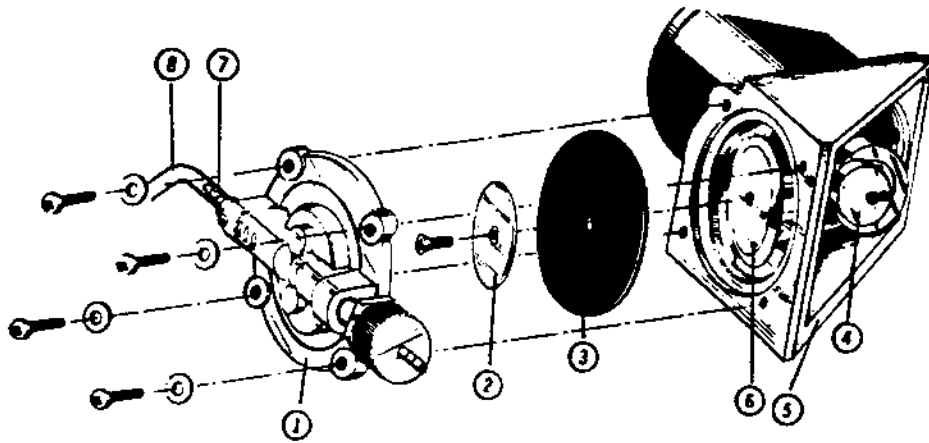
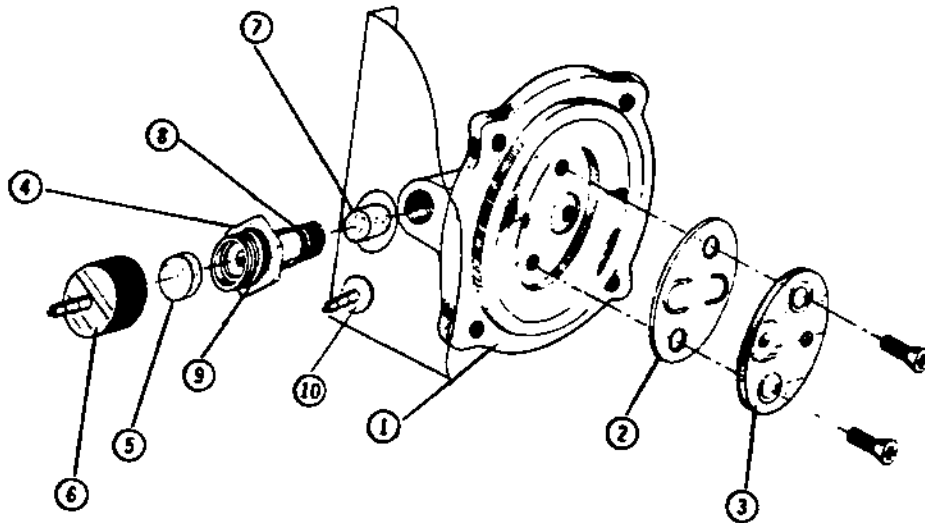

FIG. 6
FIG. 7
- (4) Remove Holder Parts Cleaning Pins and Sponge Tray/Tray Holder from Control Station.
- (5) Unscrew the screws that secure Cover to Chassis and remove Cover.
- (6) Remove Pump Head (Fig.6, No.1).
- (7) Unscrew and remove Diaphragm Adjustment Plate (Fig.6, No.2) and Diaphragm (Fig.6, No.3).
- (8) Unscrew and remove Fixing Plate (Fig.7, No.3) from inside Pump Head (Fig.7, No.1), and remove Valve Plate (Fig.7, No.2).
- (9) Clean off any flux that is adhering to Valve Plate and Diaphragm with alcohol, etc. If any of Pump parts are cracked or deformed, replace them with new parts.
- (10) Reassemble the unit by above disassemble steps in reverse order.
WARNING: Be sure to reassemble Fixing Plate (Fig.7, No.3) in proper direction, i.e., so that the countersink in Fixing Plate is opposite the counterbored holes in Pump Head (Fig.7, No.1). Make sure that Crank Arm Asse'y (Fig.6, No.6) is at the lowest position before replacing Diaphragm (Fig.6, No.3), Diaphragm Adjustment Plate (Fig.6, No.2) and Pump Head (Fig.6, No.1). Apply a little silicon oil to the surface of Valve Plate (Fig.7, No.2) and Diaphragm (Fig.6, No.3) before reassembling them. This will make future disassembly much easier. Be careful not to allow any dust or other foreign matter to enter Pump inside during reassembling.
#2, #3 & #7 from fig. 7 come together as one part - 481-214